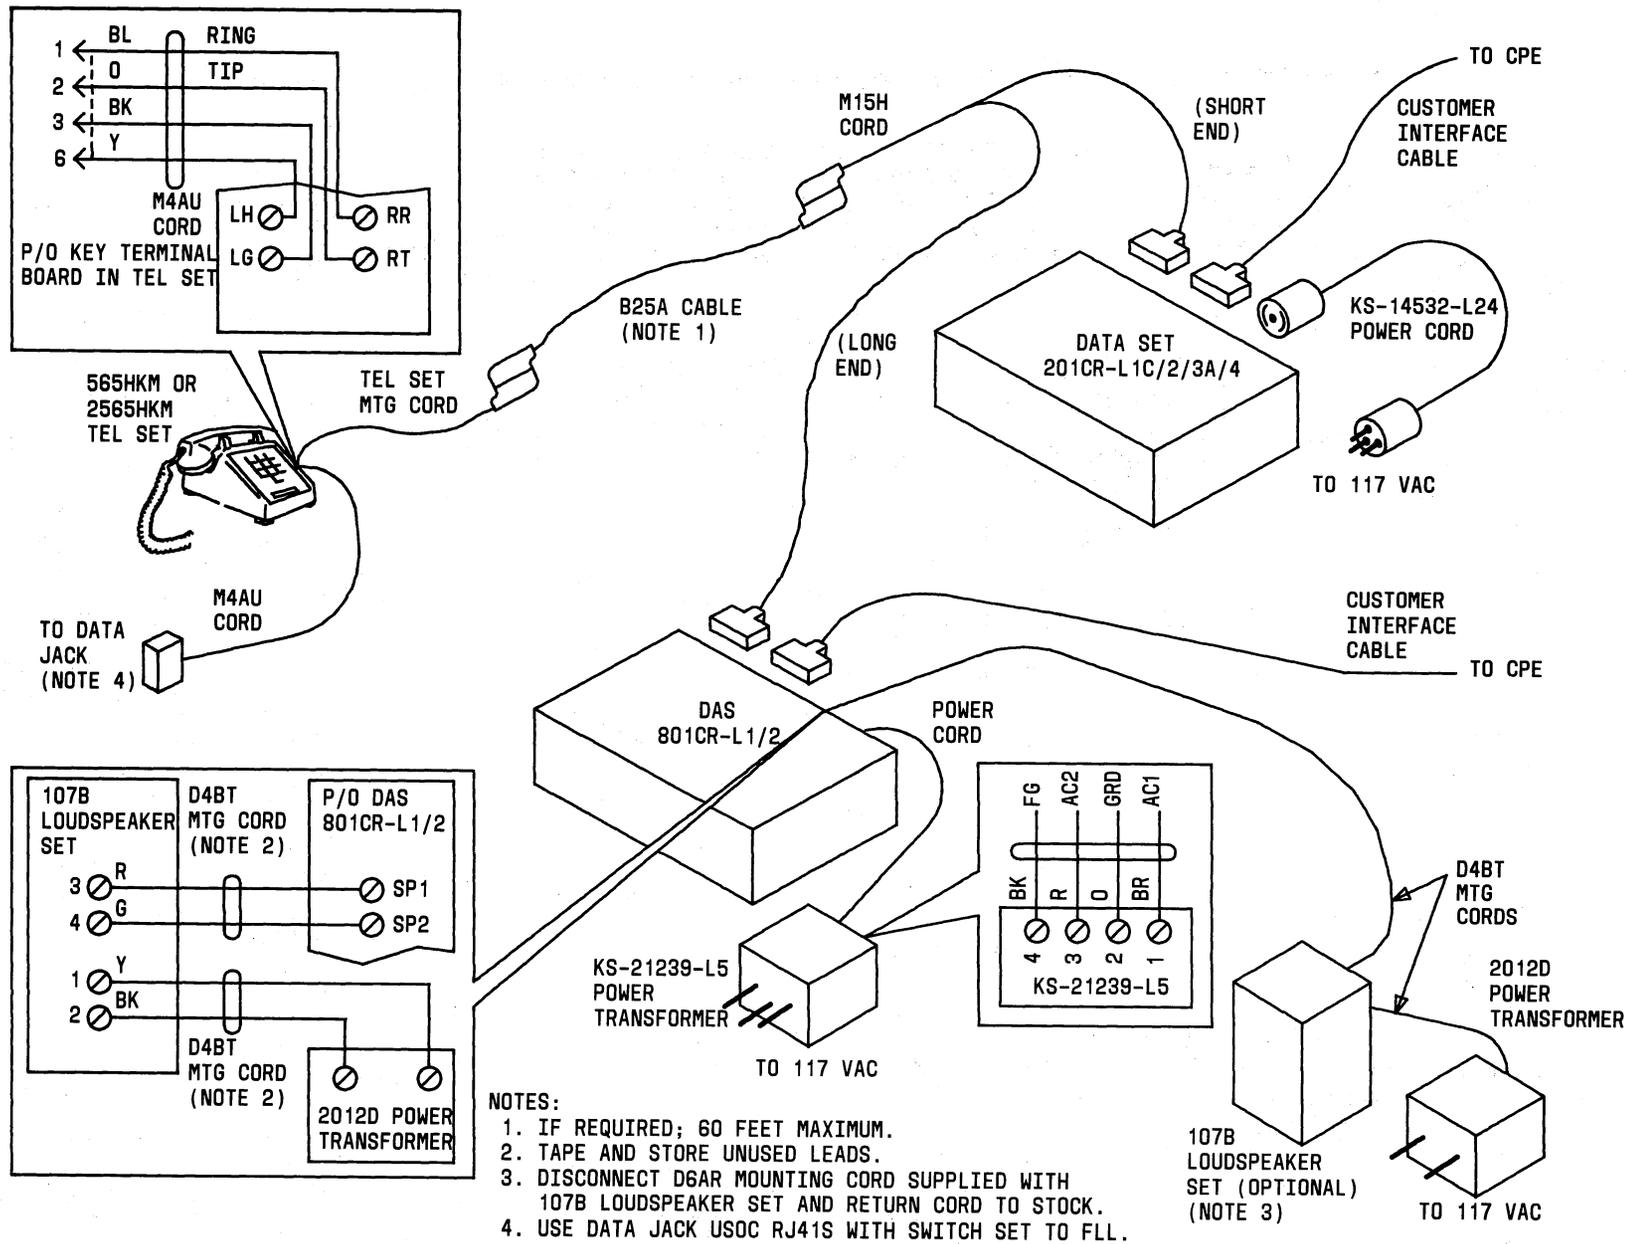

Fig. 8—Single Data Set With ACU and Telephone Set—Connection Diagram
- D4BT cord (2)—optional
4.06 Single Data Set With ACU and Telephone Set: The connection diagram for this arrangement is Fig. 8.